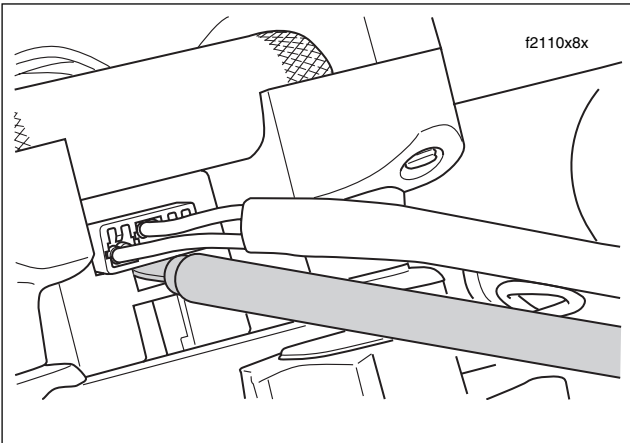

Figure 8-75. Pull Main Harness Conduit and Tool to Release Socket Housing
- c. Grasping main harness conduit and tool, pull both at the same time to release socket housing from ignition switch housing. See Figure 8-75.